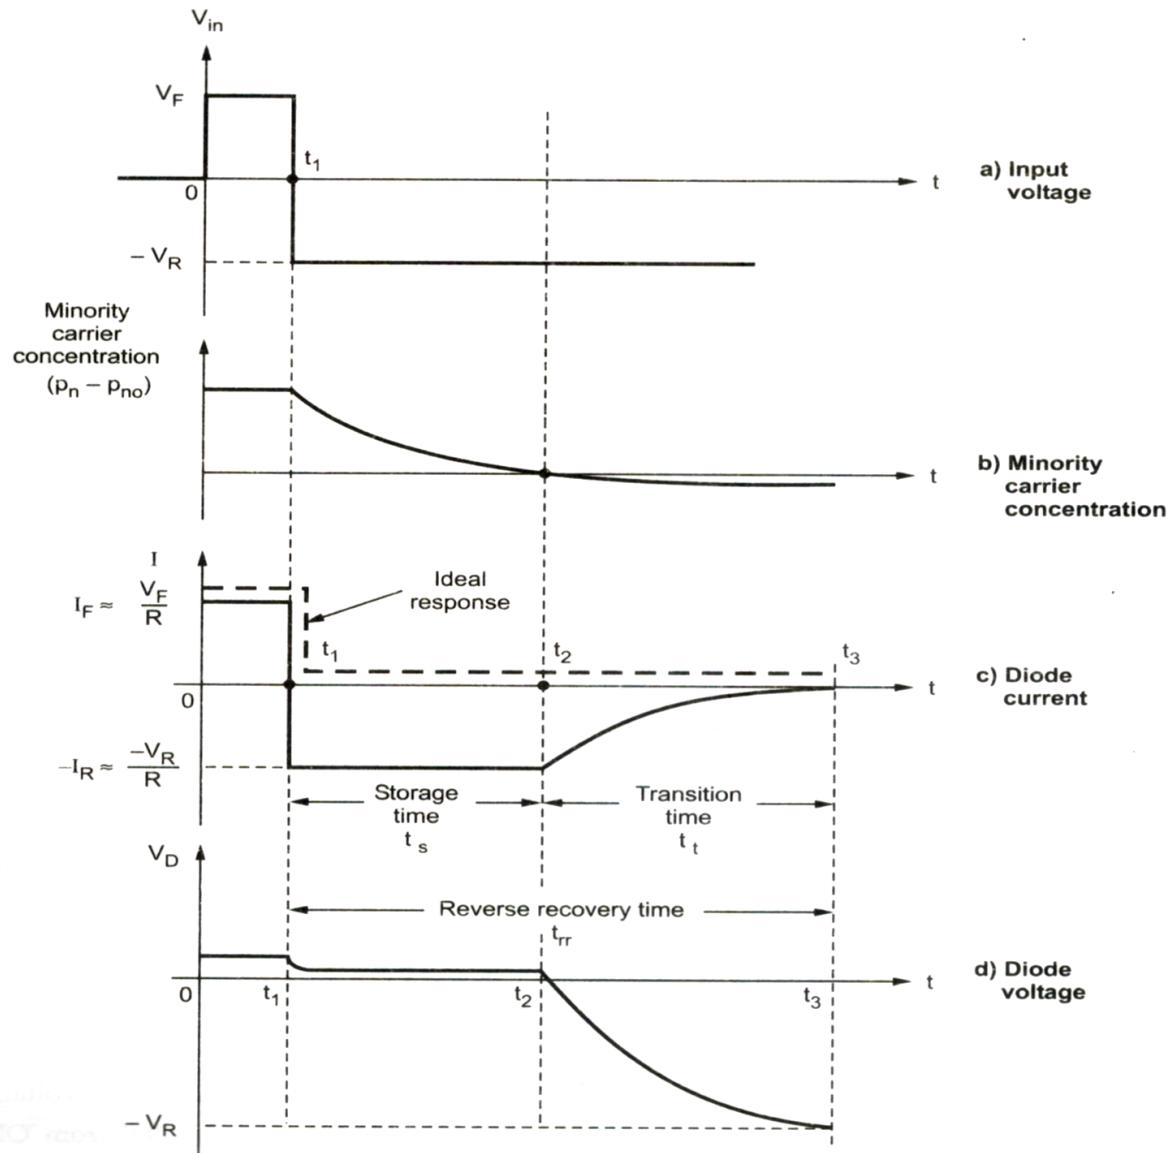

Fig. 1.21 Switching characteristics of diode
- The number of minority carriers take time to reduce from  $P_n - P_{no}$  to zero at the junction as shown in the Fig. 1.21 (b).
- From  $t_2$  onwards, the diode voltage starts to reverse and the diode current starts decreasing as shown in the Fig. 1.21 (c).